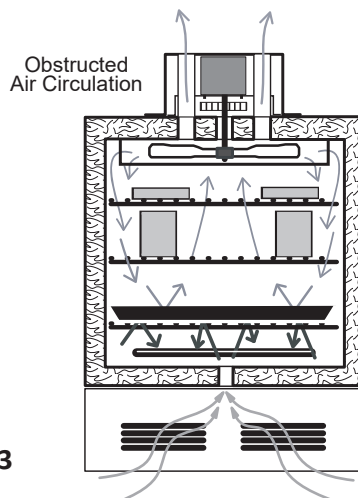

FIG. 4
- ▶ Avoid large solid trays or foil on lower shelves, this can drastically limit heat to shelves and articles placed above. (FIG. 4)